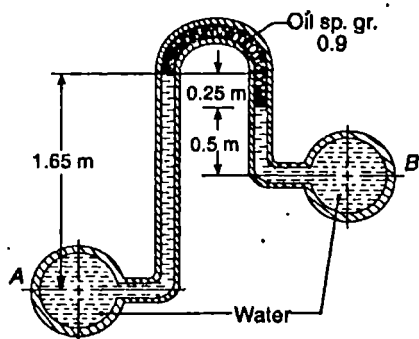

Fig. 2-33.
5. With the manometer reading as shown in Fig. 2-33, calculate the difference of pressures in the two tubes A and B containing water. [Ans. 9.07 kPa]